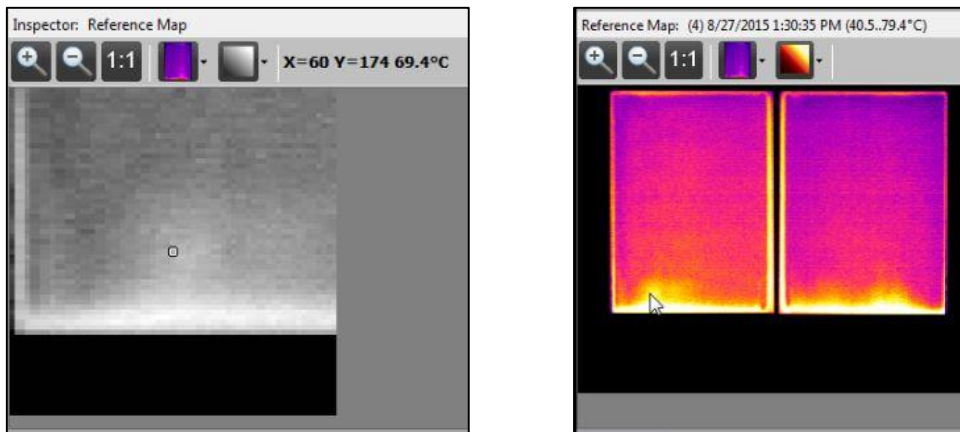
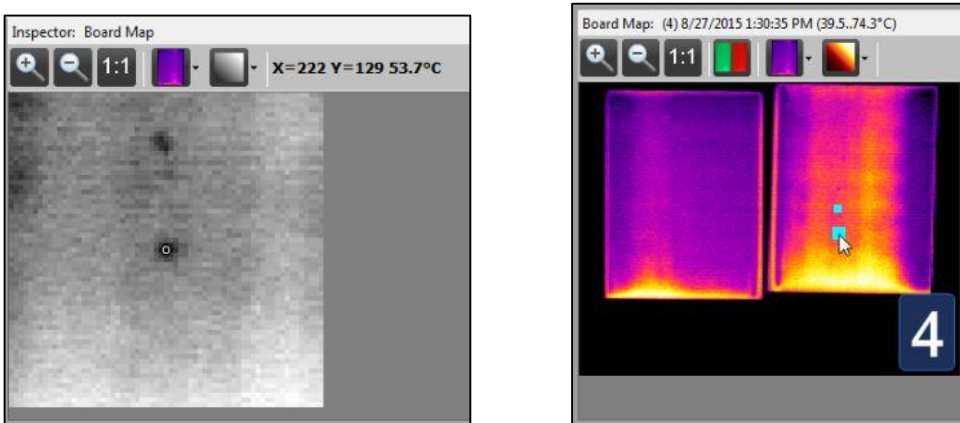

Figure 102: TIP900 – Log Viewer board map inspection of a reference board map
Figure 103: TIP900 – Log Viewer board map inspection of a scanned board map
The board map inspector domain is for detailed inspection of archived board maps and their assigned reference board maps. Wherever you place the current cursor, either on the reference board map display domain or archived board map display domain, see chapters 5.3.1.4 and 5.3.1.5, the cursor position is displayed in a centralized manner in the board map inspector display domain. In Figure 102 and Figure 103 you see the currently placed cursor in the reference board map domain and the scanned archived board map domain, displayed centralized in the inspector board domain. The chosen inspector view is in levels of gray. All three (3) display domains 5.3.1.3, 5.3.1.4 and 5.3.1.5 have identical display functionality and operator push buttons for zooming, return to 1:1 standard size, image or horizontal slice view, gray level or color view.